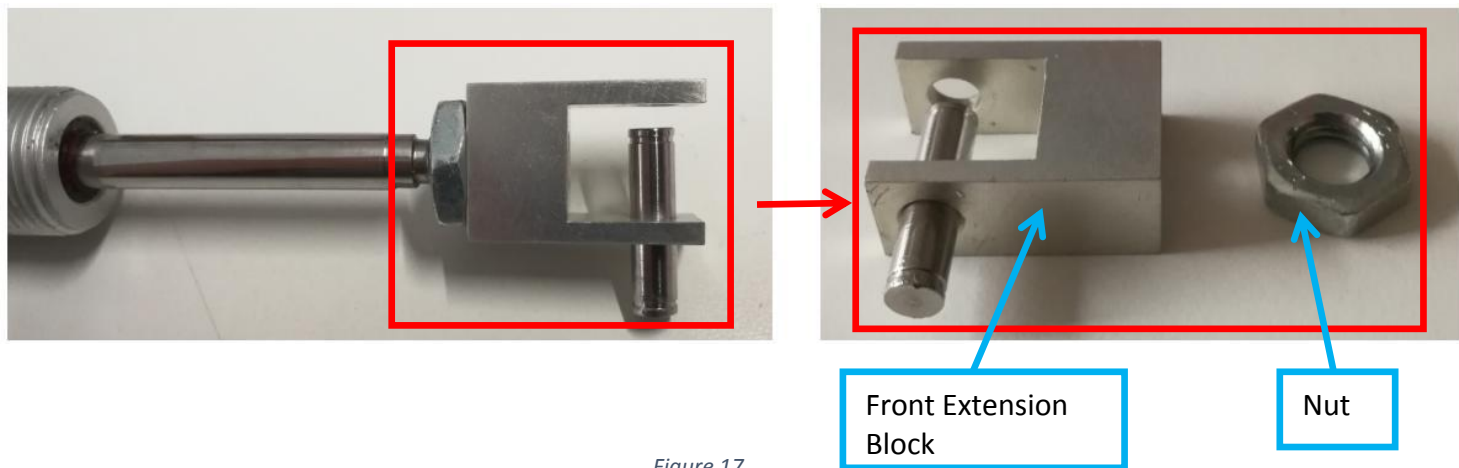

Figure 17
21. Assemble Nut & Front Extension Block (With Dowel Pin) at Outer Barrier Cylinder as Figure 17.